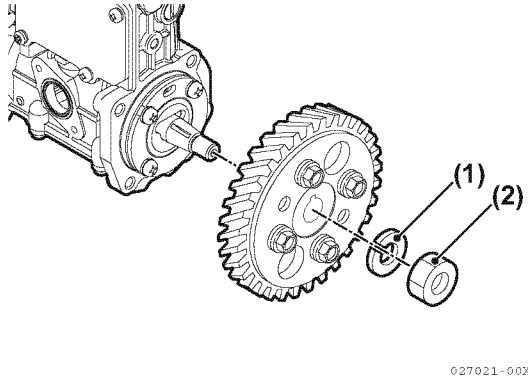

Figure 7-17
5. Reinstall the fuel injection pump drive gear lock washer (**Figure 7-17, (1)**) and nut (**Figure 7-17, (2)**). Do not lubricate threads of the nut or shaft. Hold the crankshaft pulley bolt with a socket wrench and tighten the drive gear nut to the specified torque. See *Special Torque Chart* on page 7-7.